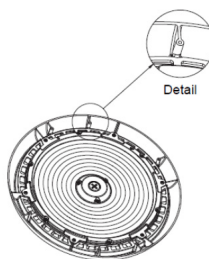

Fig. 18
1. Remove the 4 screws that were preinstalled on the High Bay. (Fig. 18)